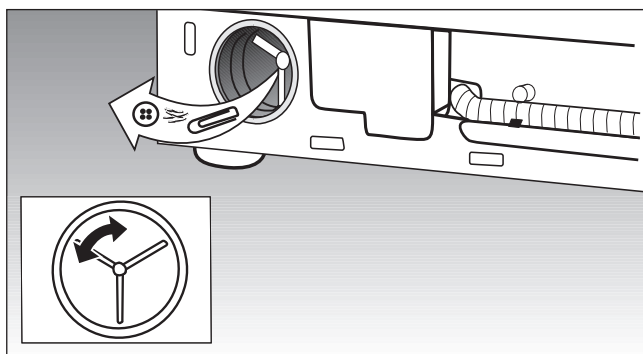

Figure 28.
- Remove any foreign objects or fluff that may have accumulated. Clean the interior of the pump. Check to make sure that the vanes of the pump can be easily rotated. See Figure 28.